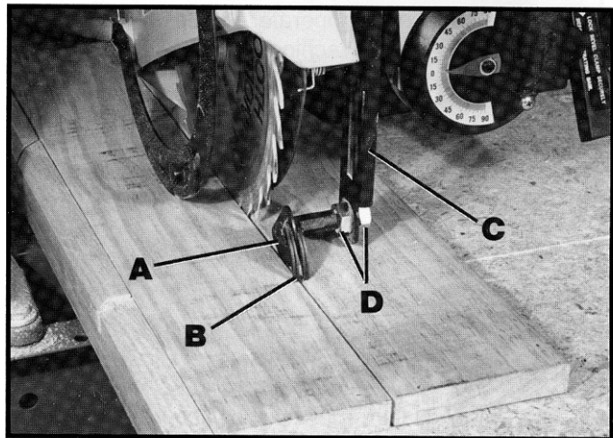

Fig. 64
During ripping operations, the splitter (A) Fig. 64, should be adjusted so that it rides in the saw kerf. The anti-kickback fingers (B) should be adjusted so that the fingers catch and hold the workpiece in case it is thrown back towards the operator by the saw blade (commonly known as kickback).
2. Start a piece of material through the saw as shown in Fig. 64.
4. Adjust the arm (C) Fig. 64, so that it is vertical and the splitter (A) is in the saw kerf. The straight side of the splitter should be towards the blade as shown in Fig. 64, and the anti-kickback fingers should rest on the workpiece. **NOTE:** The clamp knob for arm (C) must be tight. Wiggle arm (C) while tightening clamp knob with other hand to be sure clamp is firmly seated and tight.
5. If the splitter does not line up with the saw kerf, adjust hex nuts (D) until it does.
6. Pull backwards on the workpiece to check if the anti-kickback fingers bite into the material and prevent further backward pulling. If necessary, readjust height of arm (C) Fig. 64.